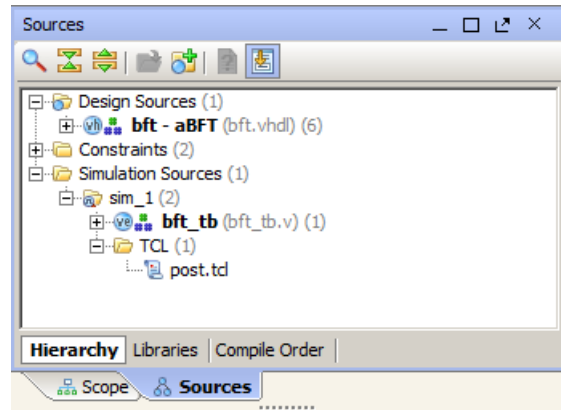

Figure 4-15: Using the post.tcl File in a Design
4. Add the `post.tcl` file to your Vivado Design Suite project as a simulation source. The `post.tcl` file displays in the Simulation Sources folder, as shown in Figure 4-15.